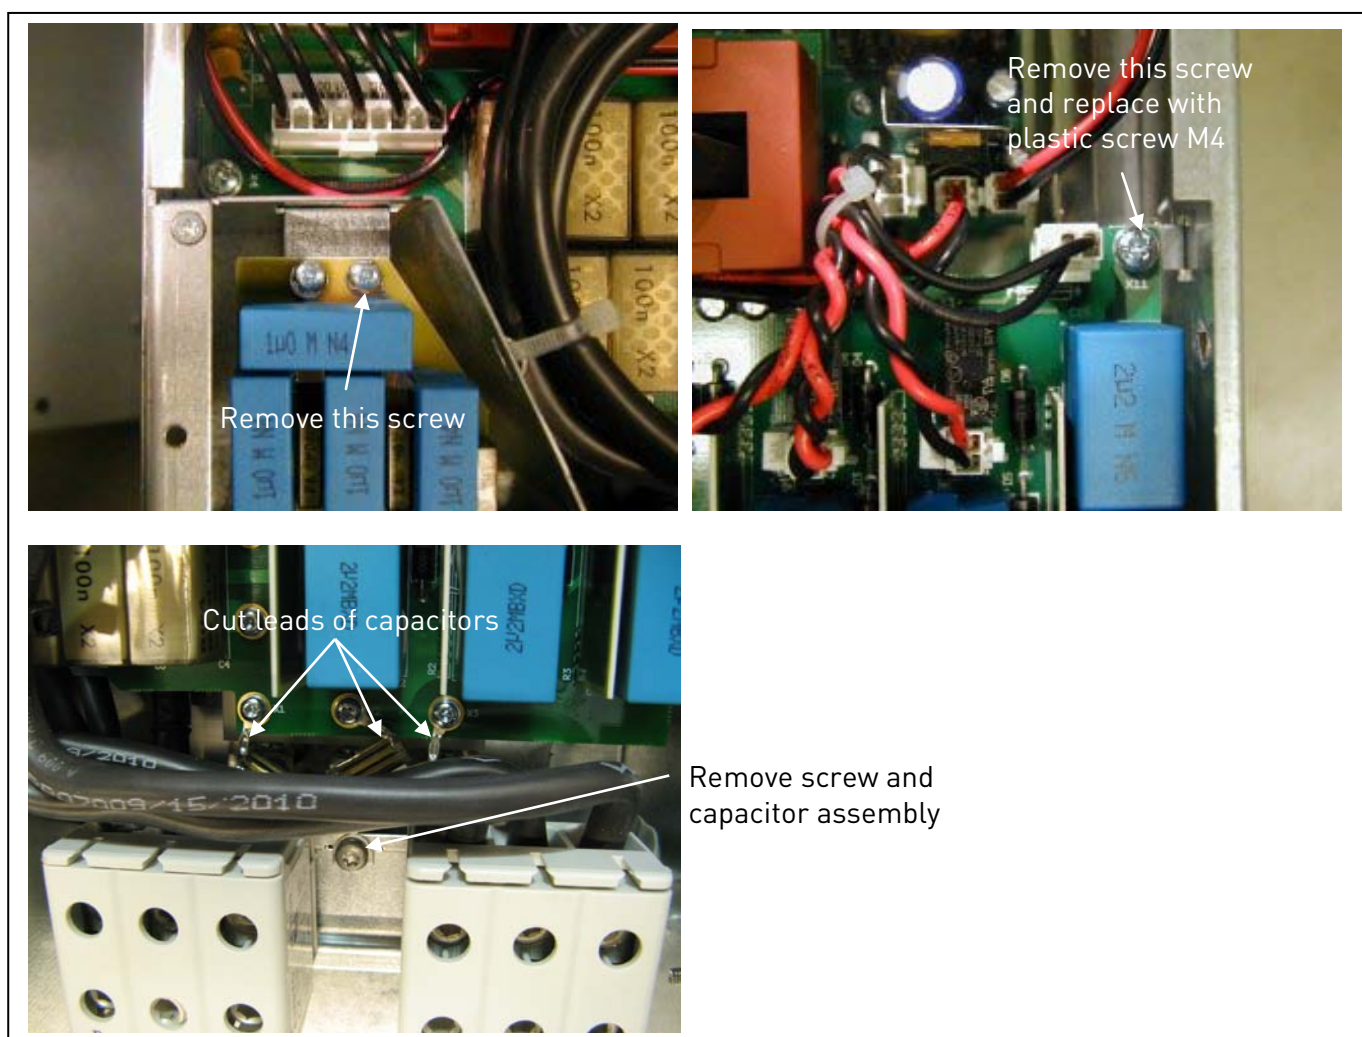

Figure 6-4. Changing of EMC protection class, FR7
1. Remove (and replace) the screws as instructed below in Figure 6-4.